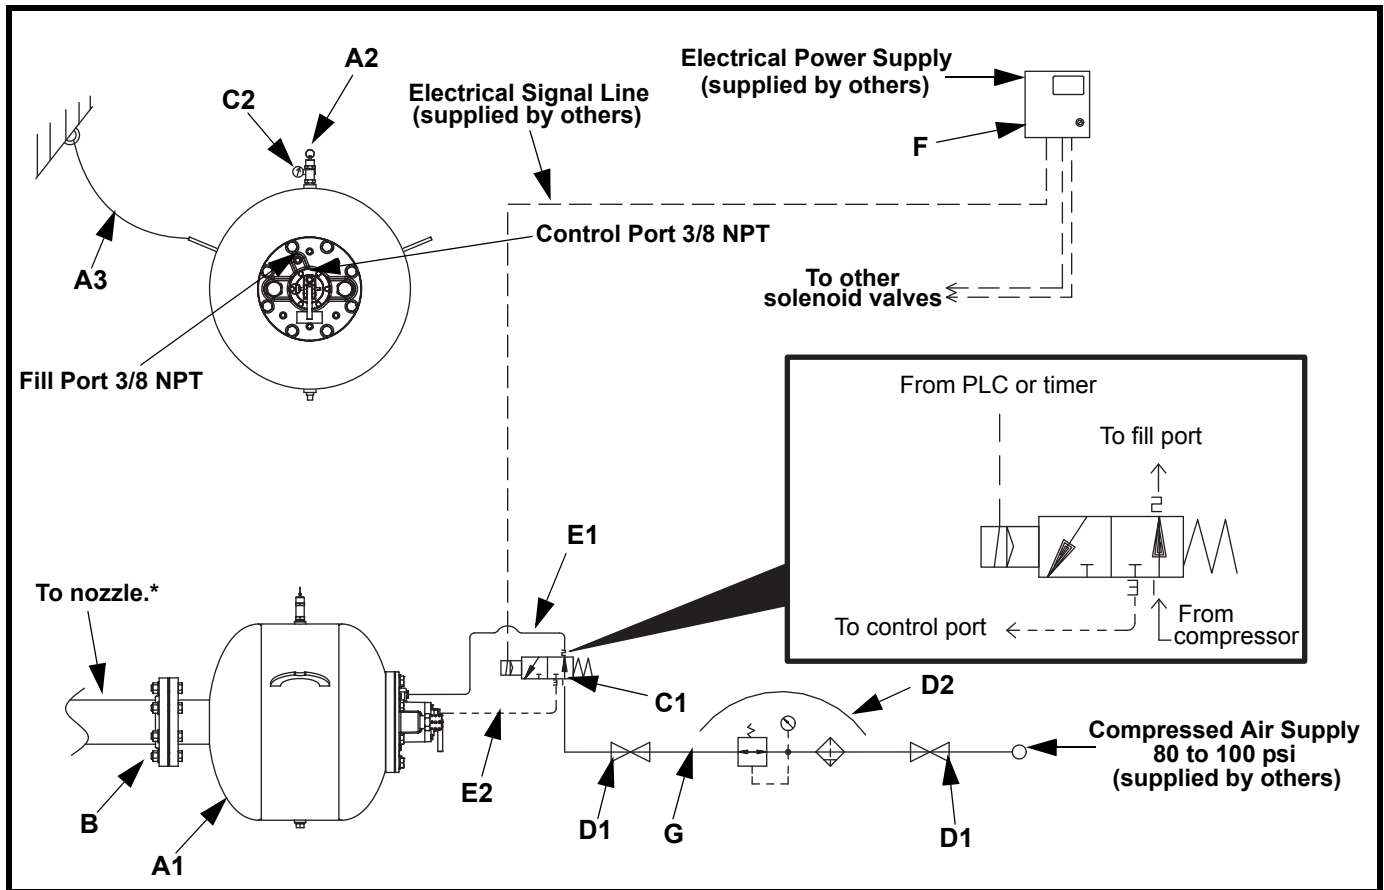

Figure 15. Plumbing Detail for Normally-Opened Solenoid Valve
3. Remove recessed hex-head screw from the valve’s fill port. See Figure 15, 16 or 17.
- a. If using a normally-opened solenoid valve, connect the 3-way electric solenoid valve outlet port (2) to exhaust valve fill port. See Figure 15.